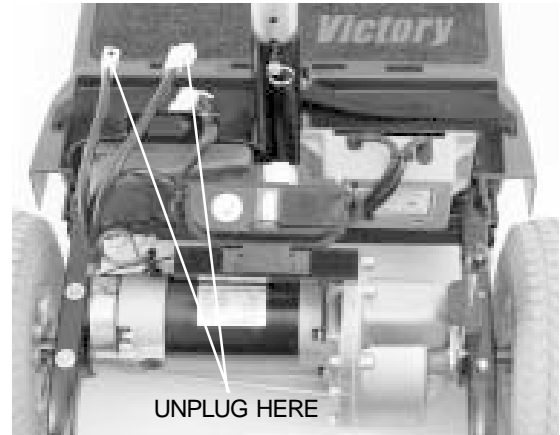

Figure 16. Battery Harnesses
5. Unplug both battery harnesses. See figure 16.